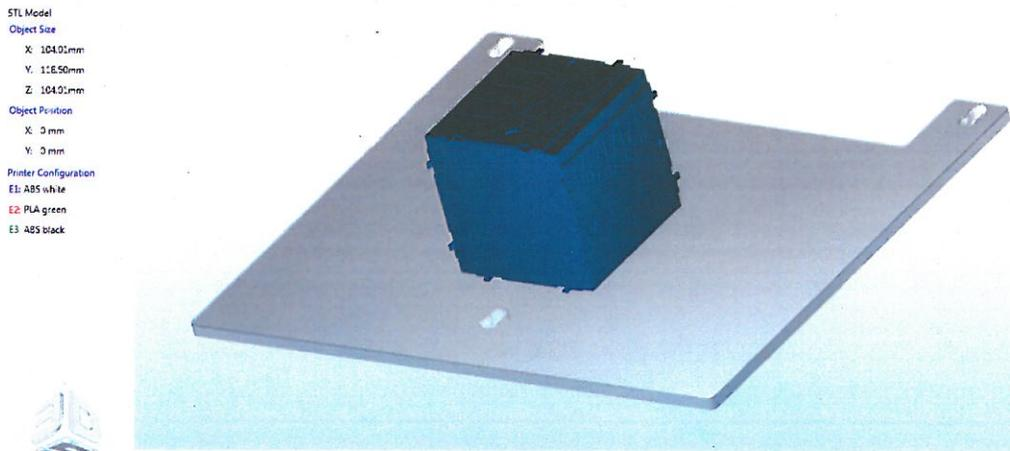

Figure 7: Sample Object Loaded on Platform
7. **PAN** around the object by holding the left mouse button down and drag around the object (Figure 7).